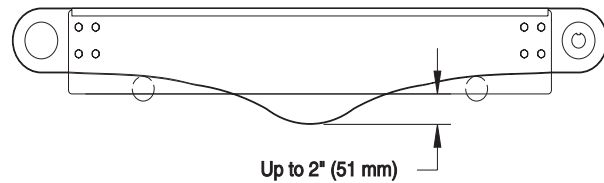

Figure 14
1. Check belt sag by measuring from the bottom of conveyor frame (**Figure 14**). Belt sag should not exceed 2" (51 mm).